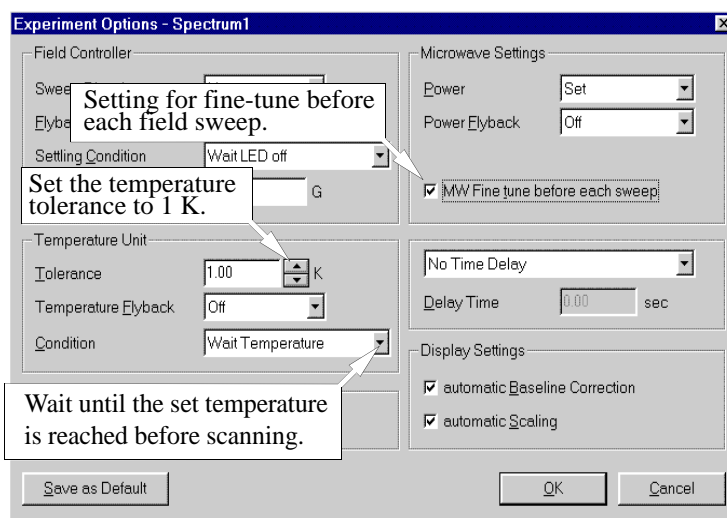

Figure 3-6 Experimental Options for a temperature sweep experiment.
4. **Set the Experiment Options for a temperature sweep experiment.** From the Parameters drop-down menu select Options. Set the options as indicated in Figure 3-6. The properties of your sample may change with temperature. For example, changes in the dielectric properties of the sample may cause changes in the resonant frequency or match of the cavity. Therefore, it is important to adjust the AFC and iris screw position between field scans. To program the spectrometer to fine tune automatically, click on the Microwave Fine Tune box. You